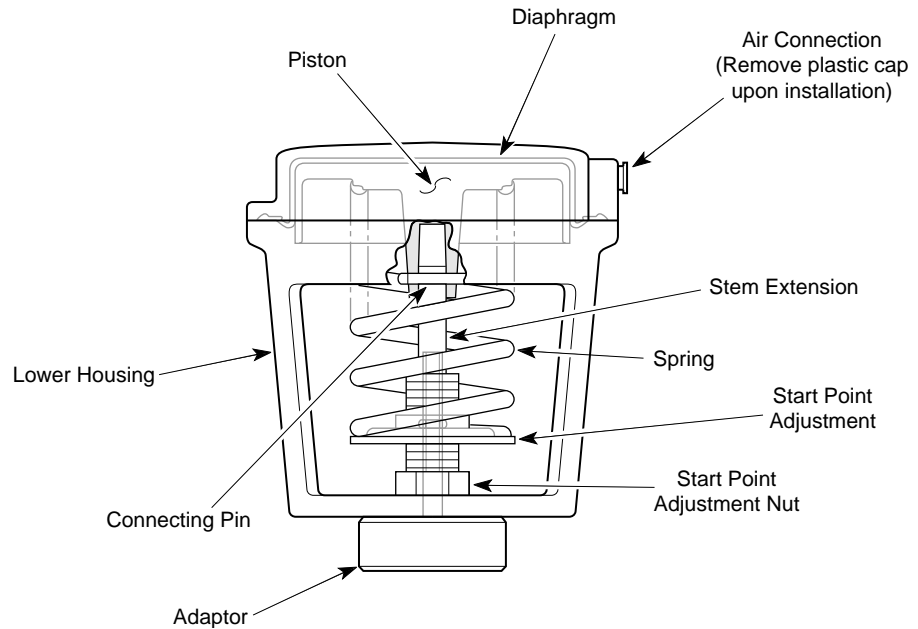

Figure-1 Actuator Parts Identification.
3. Loosen the mounting nut (see Figure-1).
2. Rotate the start point adjustment nut fully counterclockwise, as viewed from the bottom of the actuator. This will reduce the spring compression as much as possible (see Figure-1).